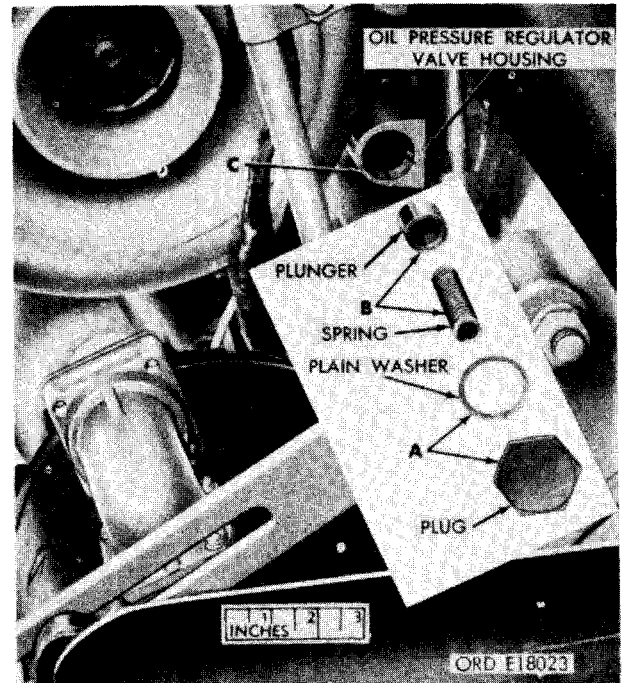

FIGURE 101. REMOVING, INSTALLING, AND INSPECTING OIL PRESSURE REGULATOR VALVE.
**a. Removal.** Figure 101. (A) Remove oil pressure regulator valve plug and plain washer from oil pressure regulator valve housing. Discard plain washer. (B) Remove oil pressure regulator spring and plunger from oil pressure regulator valve housing. (C) Inspect oil pressure regulator plunger bore in oil pressure regulator valve housing for burrs, scratches, wear, or obstructions. Clean bore thoroughly using dry-cleaning solvent or mineral spirits paint thinner. Remove slight scratches and burrs in the bore with crocus cloth.
**c. Installation.** Refer to figure 101 and reverse the sequence of instructions to install the oil pressure regulator valve components. Use a new plain washer when installing plug.